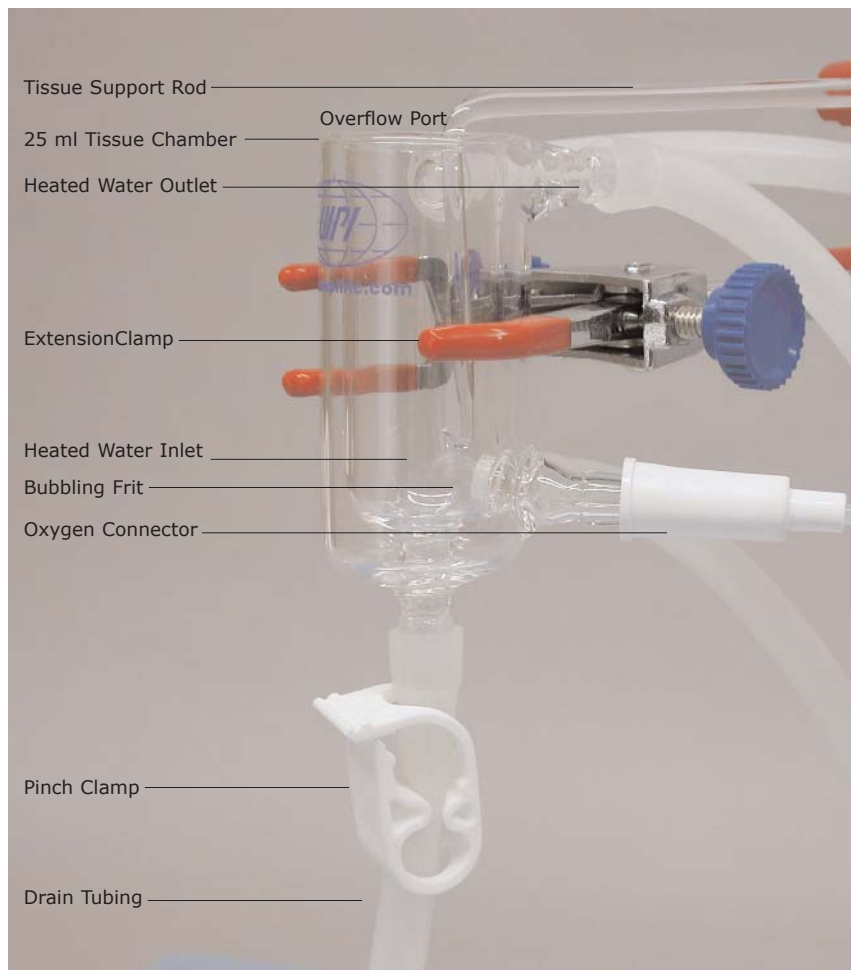

Figure 2: Close-up of 25ml tissue bath with water, drain, and aeration tubing attached.
13. Feed about 8cm of the drain line through the two circular holes on the plastic pinch clamp (7465). Carefully put the end of the drain line with the pinch clamp on the drain port of the tissue bath. See Figure 2. Leave the drain open.